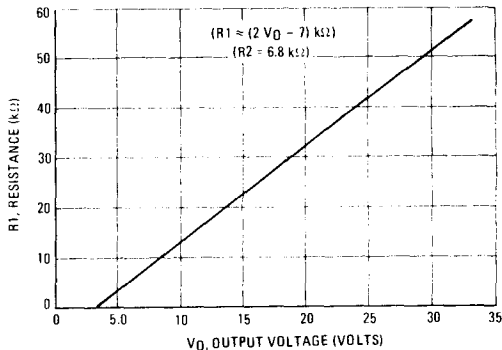

FIGURE 11 – R1 and R2 versus  $V_O$
b) For  $2.5 \leq V_O \leq 3.5$  Vdc – Output voltage is set by resistors R1 and R2 (see Figure 5). Resistors R1 and R2 can be determined from the graph of Figure 11 or from the equations: